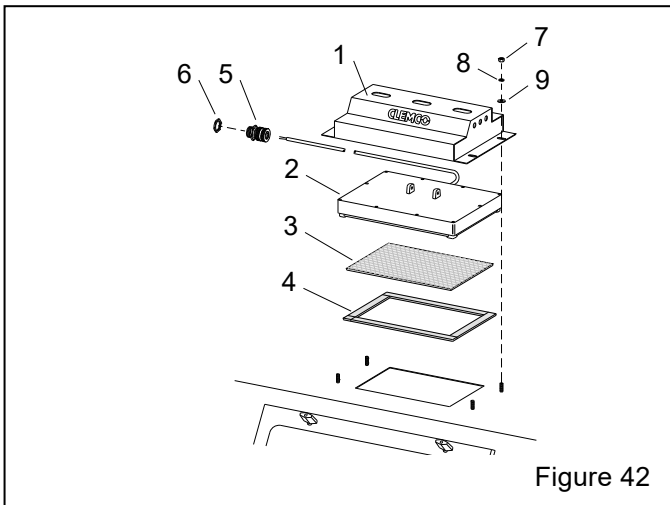

Figure 42
9.4 LED Light Assembly – Figure 42